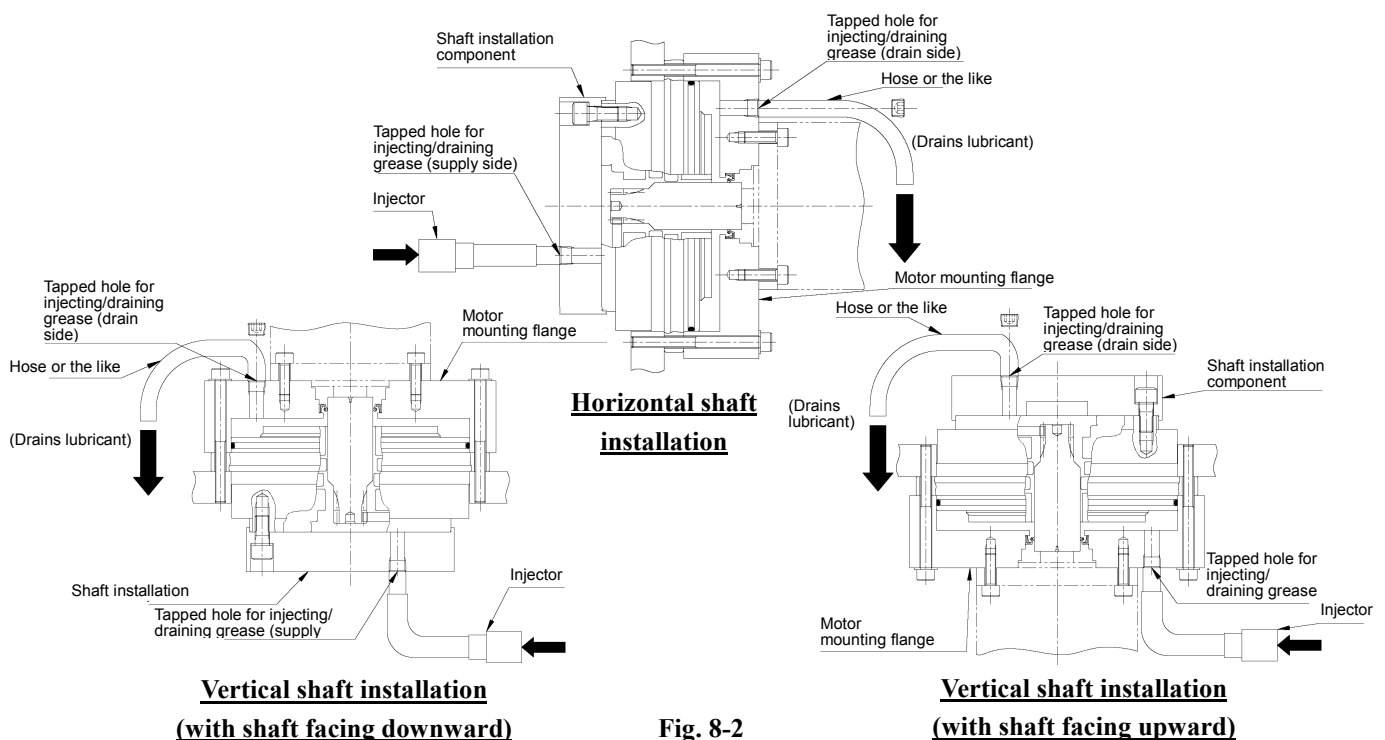

Fig. 8-2
- The shape of the reduction gear may differ from the illustration in Fig. 8-2 above, depending on the ordered specifications. For details on the shape, refer to the catalog and the separately provided “Outer dimensions” drawings and specification sheet.
- Step 4** • Attach a grease nipple, etc. to the tapped hole for injecting/draining grease and then attach the injector. (Refer to Fig. 8-2)